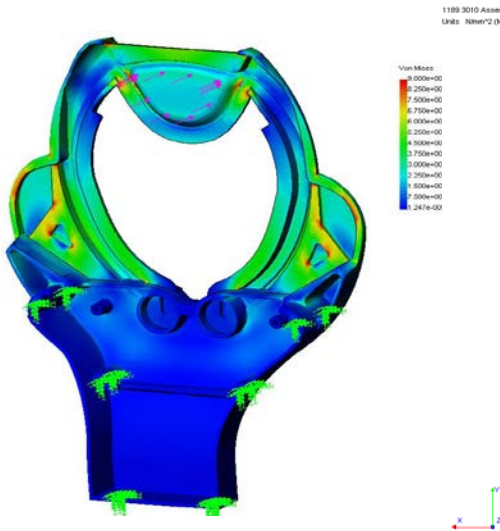

Figure 1:
- *Figure 1* – Original design with initial rigid constraints